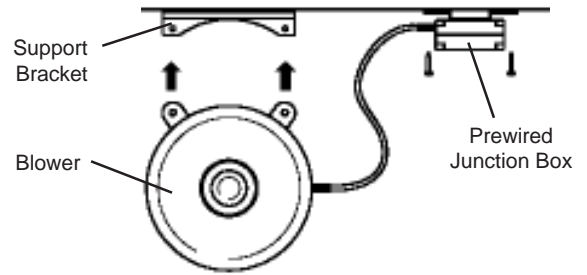

Figure 8 - Mounting of Blower
9. Position the blower in the horizontal ducting system for easy mounting with supplied mounting bracket (see Figure 8) ensuring that a 25mm (1") minimum clearance is maintained to any combustible materials. Some consideration should go into the planning to ensure that the blower noise does not affect rooms you would like kept quiet.